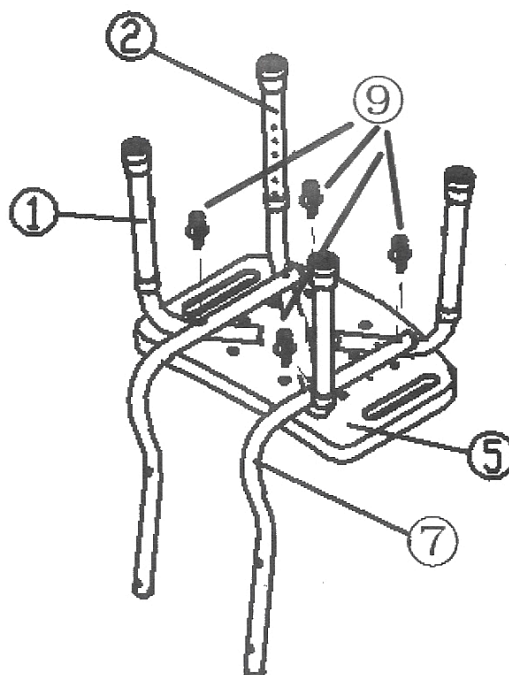

Figure 3
5. Install mounting screw through top leg or bottom leg and tighten on the seat. Refer to figure 3.